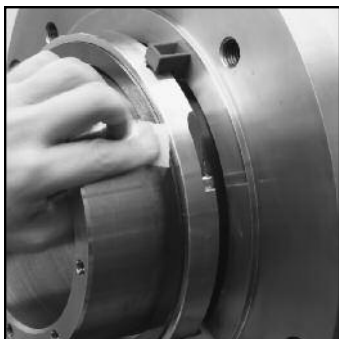

Figure 9
10. Clean the mating ring sealing surface with the provided alcohol pads. Figure 9.